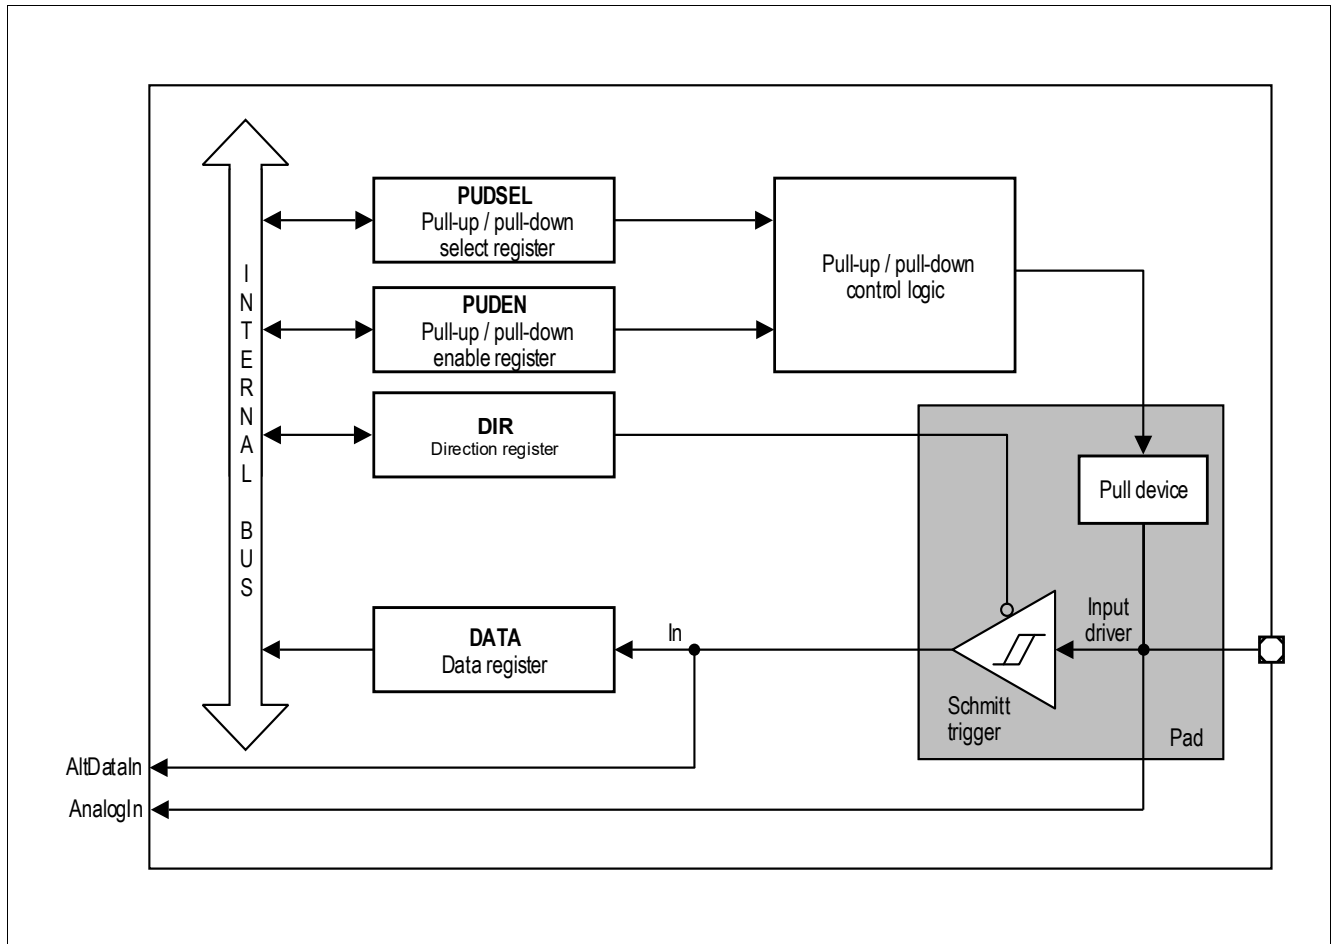

**Figure 16** General structure of a bidirectional port (P0, P1)
**Figure 16** shows the block diagram of a TLE9872QTW40 bidirectional port pin. Each port pin is equipped with a number of control and data bits, thus enabling very flexible usage of the pin. By defining the contents of the control register, each individual pin can be configured as an input or an output. The user can also configure each pin as an open-drain pin with or without an internal pull-up/pull-down.